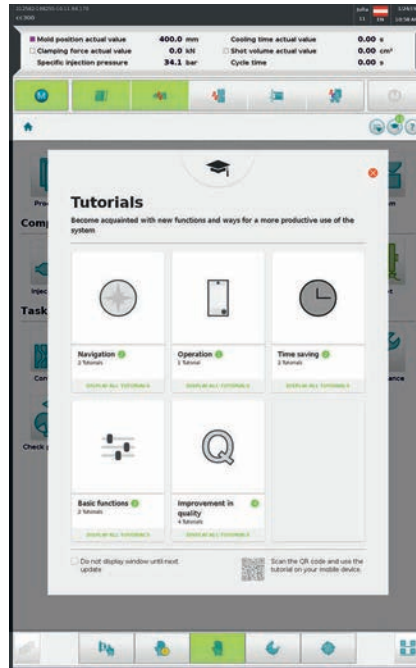

**Fig. 1.** Components and tasks are combined on a common page in the new interface. This improves clarity and saves time (© Engel)
- The fact that all components and tasks are combined on a common page (Fig. 1),